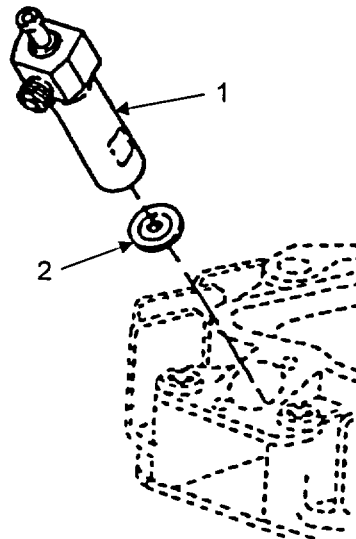

Figure 4-4. Fuel Injector
- a. Remove the injector (Figure 4-4, Item 1) from the cylinder head.
- b. Remove seal washer (2) and discard.
- a. Visually inspect injector (1) for scoring or burning. inspect to see if injector is bent, cracked, or damaged.
a. Be certain injector seat in cylinder is clean. Lightly coat a new seal washer (Figure 4-4, Item 2) with grease and install on nozzle end of injector (1) Make sure outside bevel edge of new joint washer points toward cylinder head
b. Carefully install injector (1) into injector bore in cylinder head. Make sure not to damage nozzle needle. Tighten injector to 7 lb.-ft (10 Nm) using a torque wrench